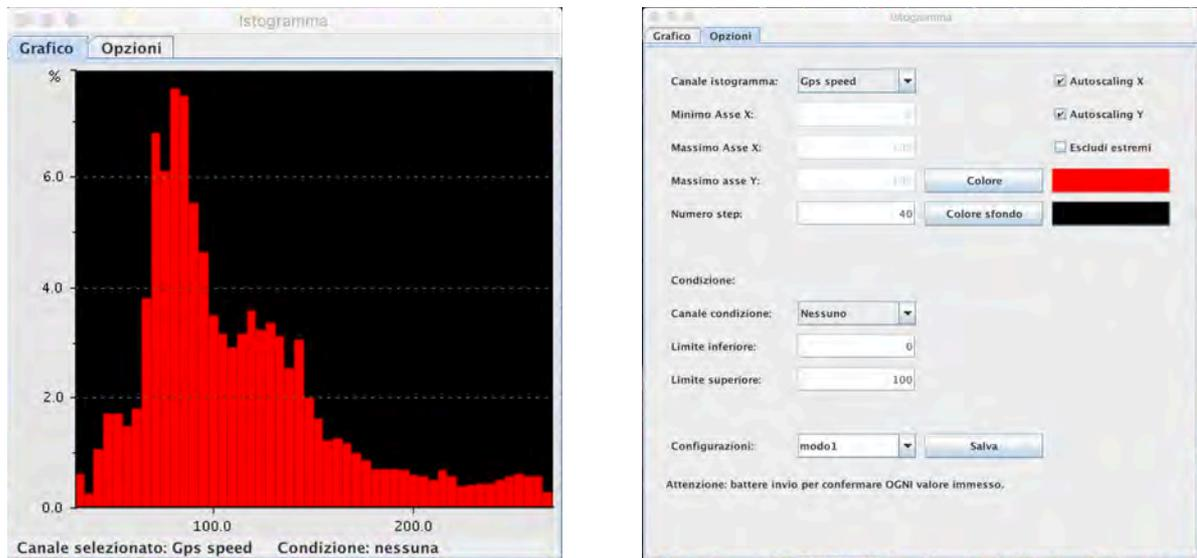

Fig. 41 – Histogram and its options
- **Histograms:** this function allows you to create one of more histograms relative to the channels. Using *open new histogram* allows you to create a new histogram as shown in figure 41. The options tab allows you to configure the channel that you want to histogram, the minimum and maximum values of your interest, the maximum value of the Y-axis of the histogram and finally the number of steps that you want to use to compute the histogram. The *autoscaling* functions automatically sets the full scale ranges. In case of histograms related to the sessions, the *remove edges* option allows you to discard the first and the last lap of the session. Histograms can be customized also in terms of color and background color using the corresponding fields in their options tab.